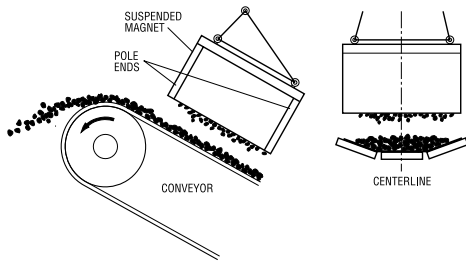
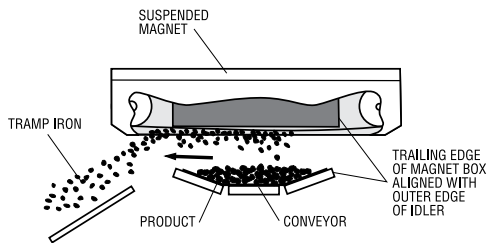

Figure 3. Position 2 - Manual Cleaning
Figure 4. Position 2 - Self-Cleaning
A separator mounted over the moving bed of material at right angles to the conveyor is referred to as Position 2 (Figures 3 and 4). This installation usually requires a stronger magnet than Position 1 since tramp iron at the bottom of the burden is more difficult to extract.
- c) Manually cleaned suspended magnets should be installed on the centerline of the material conveyor (Figure 3). Self-cleaning suspended magnets should be installed with the trailing edge of the magnet box immediately above the outer edge of the conveyor idler (Figure 4).